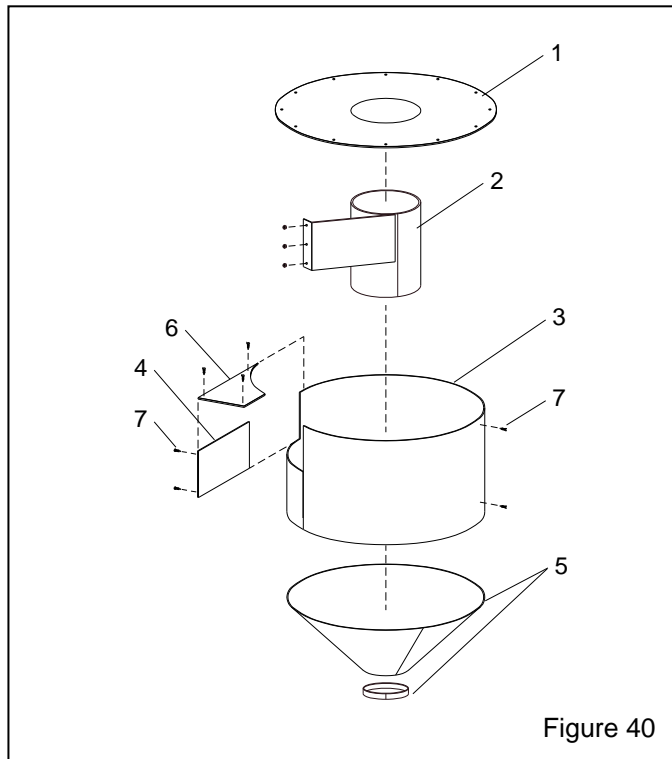

Figure 40
9.12 Reclaimer Liners, Figure 40